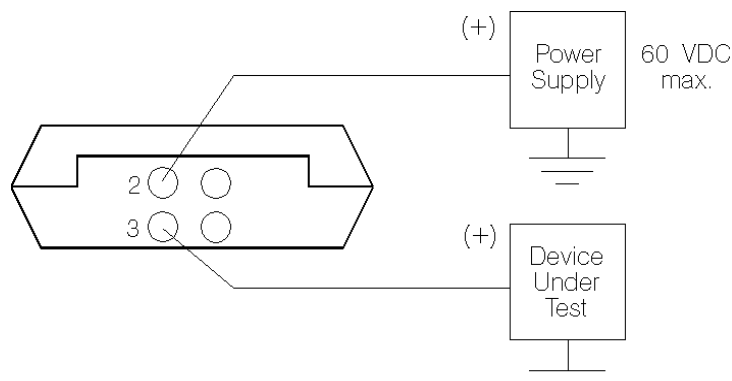

Figure 2 - Current Simulate Mode
2. When operating in the current simulate mode, the PCL431 acts like a two-wire transmitter controlling a current loop with an external voltage of up to 60 VDC as shown in Figure 2.